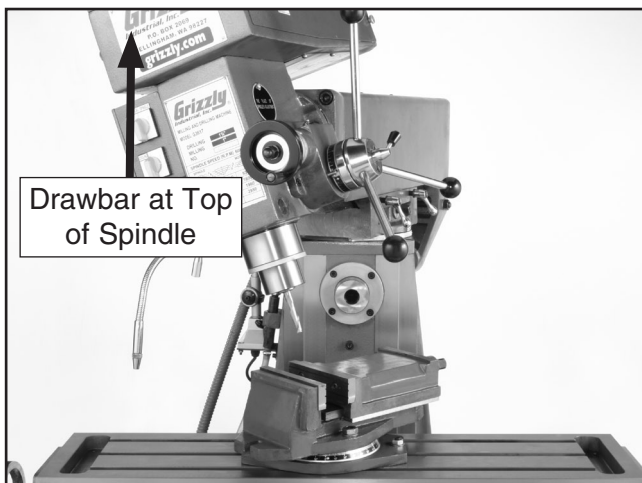

Figure 20. Vertical spindle with tool loaded.
5. Using a wrench, tighten the drawbar (see **Figure 20**) until the tool is secure in the spindle.